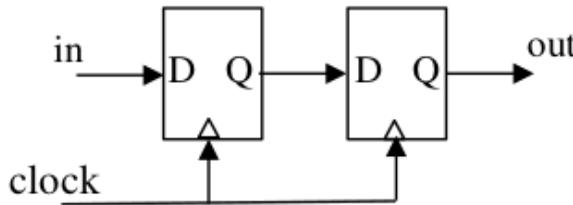

Fig. 5.6
6. Consider the sequential circuit shown in Fig. 5.6, where both flip-flops used are positive edge-triggered D flip-flops. The number of states in the state transition diagram of this circuit that have a transition back to the same state on some value of "in" is \_\_\_\_\_.